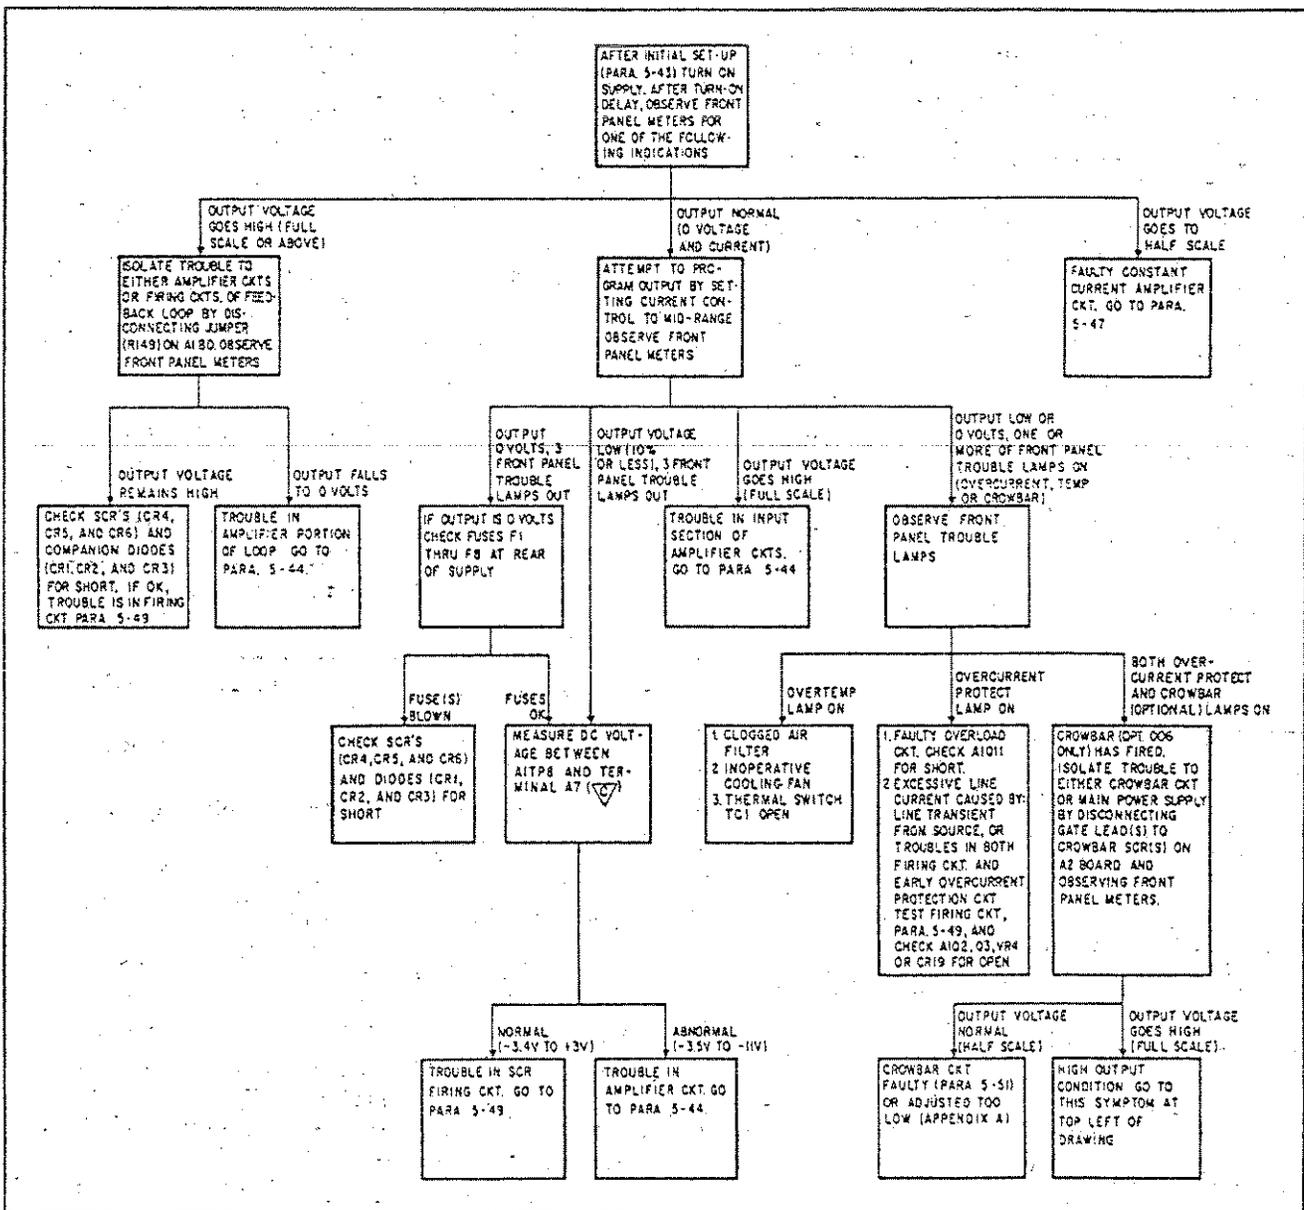

Figure 5-8. Overall Troubleshooting Tree
3. Before turning on the supply, set the front panel CURRENT controls maximum ccw and the VOLTAGE controls to mid-range. Proceed to overall troubleshooting tree, Figure 5-8.